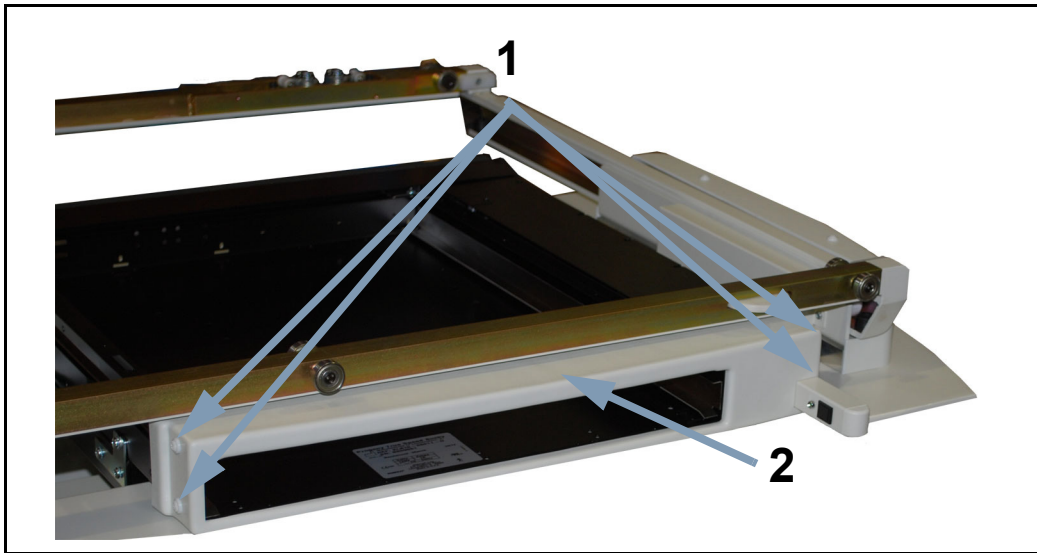

Figure 2-21. Bucky Top Covers
- 39** If not already done so, unscrew the four top cover screws (2 on each side)(1 in Figure 2-21) then remove the top cover (2).